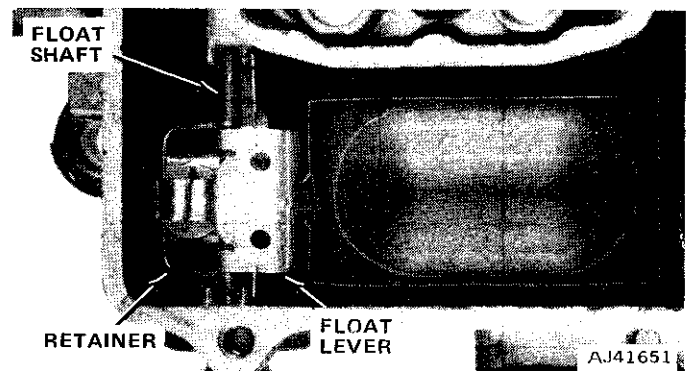

Fig. 1J-49 Float Assembly
(14) Remove fuel inlet needle seat and gasket. Remove main jets with Main Metering Jet Wrench J-10174-01 (fig. 1J-50).